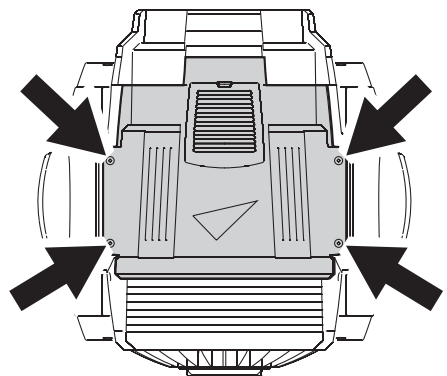

Figure 10: Top cover retaining screws
2. Turn the 4 retaining screws in the top cover (see Figure 10) one half-turn counter-clockwise to release the cover. Covers are a tight fit on the MAC TW1, and the top cover may require some pressure to remove.